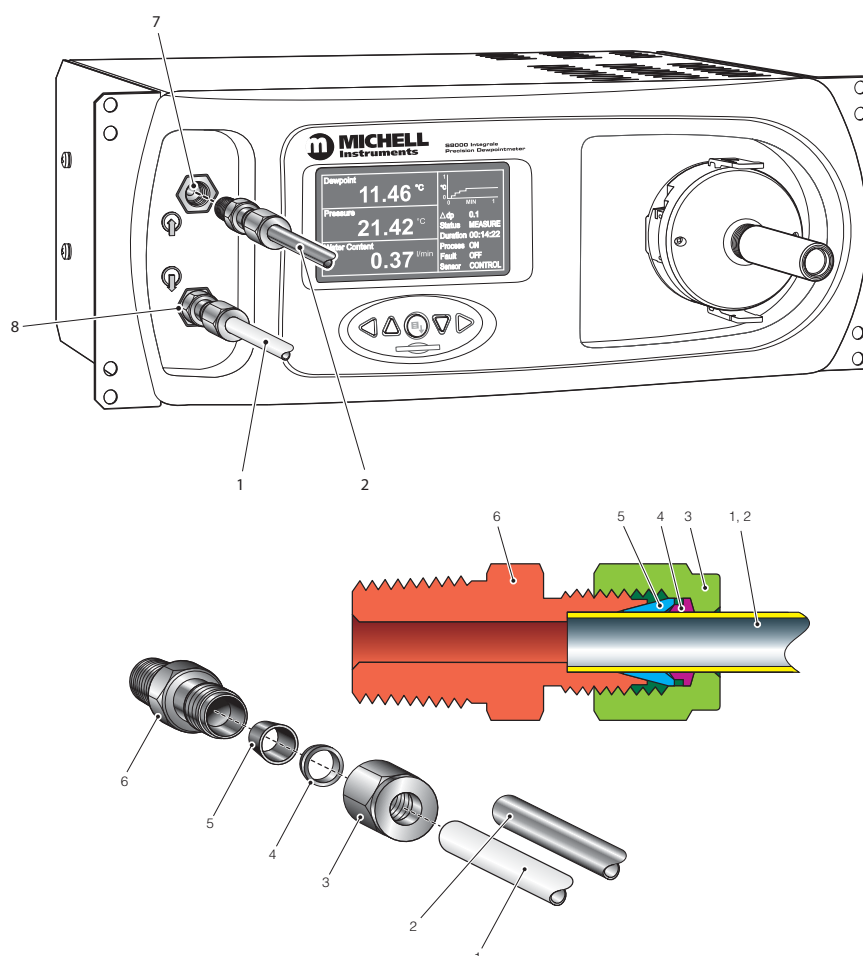

Figure 13 Gas Connections
Sample gas connections are made via the **GAS IN** port (7) and the **GAS OUT** port (8) located on the front panel of all the models. As the method of connection is the same for all types, only the horizontal version has been illustrated (see *Figure 13*):